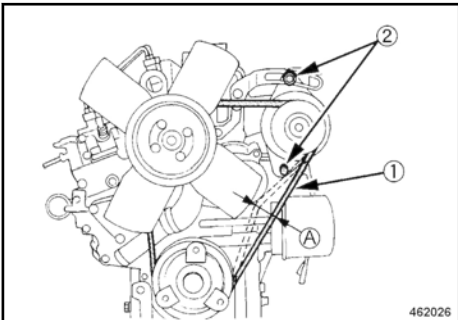

Fig. 137
Inspect the entire circumference of the V-belt (1) ↘ Fig. 137 visually for damage and cracks.